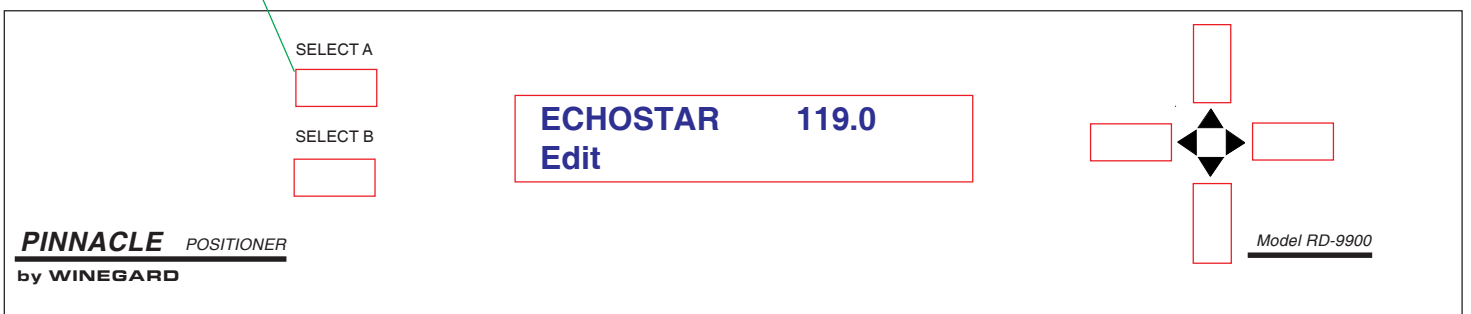

Figure 33
3. If you want to search for EchoStar® Dish Network™ satellite, press **[SELECT A]** to enter this satellite into the positioner memory as the search satellite, Figure 33. If this not the satellite you want to search for, press **[UP]** arrow key until you get the satellite you want, then press **[SELECT A]**. If the satellite you want is not in the positioner memory, proceed to Add/Edit Search Satellite, page 20.